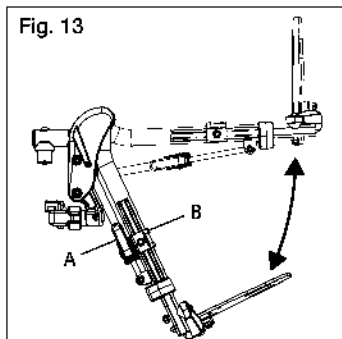

Fig. 13
- a. To raise the Pro ELR, lift the leg rest tube (Fig. 13:A) to desired angle of elevation.
- b. To lower the Pro ELR, press and hold the lever lock (Fig. 13:B) while pushing the leg rest tube (Fig. 13:A) down.